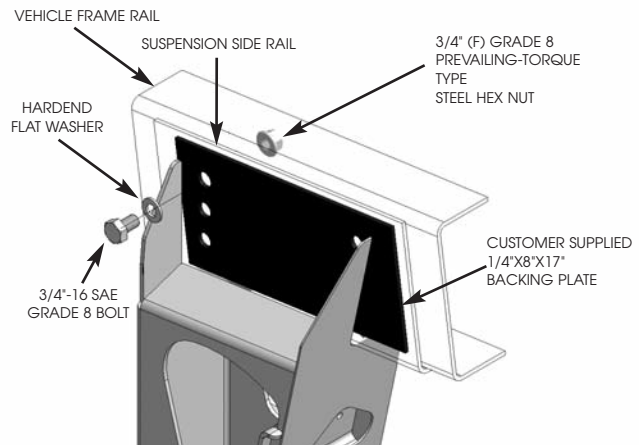

Figure 9
- Drill one 13/16" diameter hole through the vehicle frame rail, auxiliary suspension frame bracket and the customer supplied backing plate. Inspect the suspension for location and fasten with one 3/4" - 16 SAE grade 8 flat washer and a 3/4" IFI grade G prevailing-torque type steel hex flange nut (See figure 9) and snug.